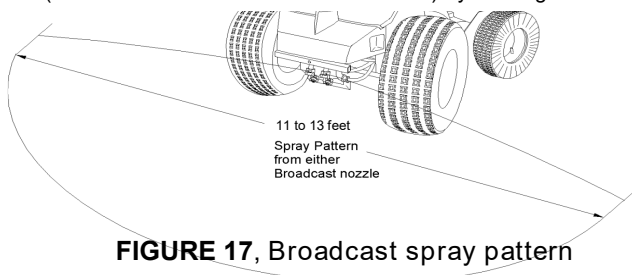

FIGURE 17, Broadcast spray pattern
With the **20 PSI** Pressure Unloader Valve installed at the factory, the sprayer has a **7-FOOT** effective pattern width and an **11 FEET** (3.4 meters) overall pattern width using a single front mounted broadcast nozzle, as shown in **FIGURE 17.** The spray distribution pattern allows the use of a **7-FOOT** (2.1 meter) overlap spreader travel pattern to achieve an even and complete coverage of the sprayed product on the entire turf area by overlapping the edge of the last spray pattern approximately **2 FEET** (.61 meter). Using a trim nozzle provides an even finished distribution over a spray pattern of **3-FOET** (.91 meters) on the surface being treated.
- Spray for **15 SECONDS** until the spray pattern is visible on the surface. The spray pattern should resemble the **11-14 FEET** spray pattern in **FIGURE 17**. Adjust as follows: